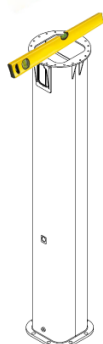

fig. 30
- a) Use a spirit level to check that the upper plate of the column (where the arm will be fixed) is perfectly horizontal (fig. 30);